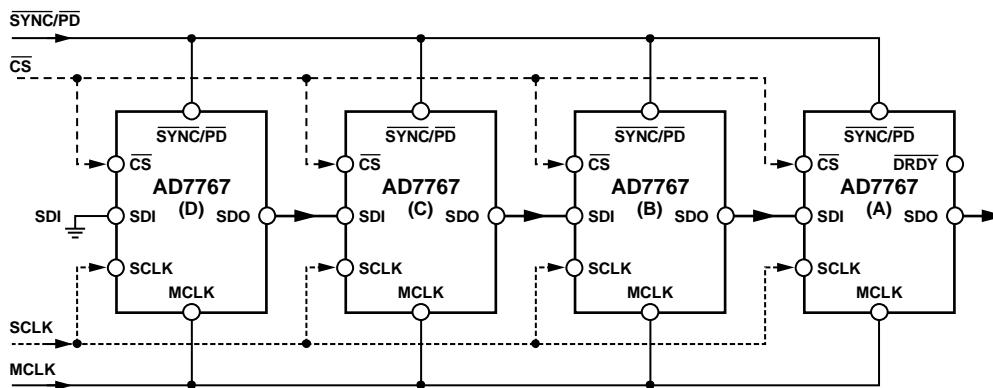
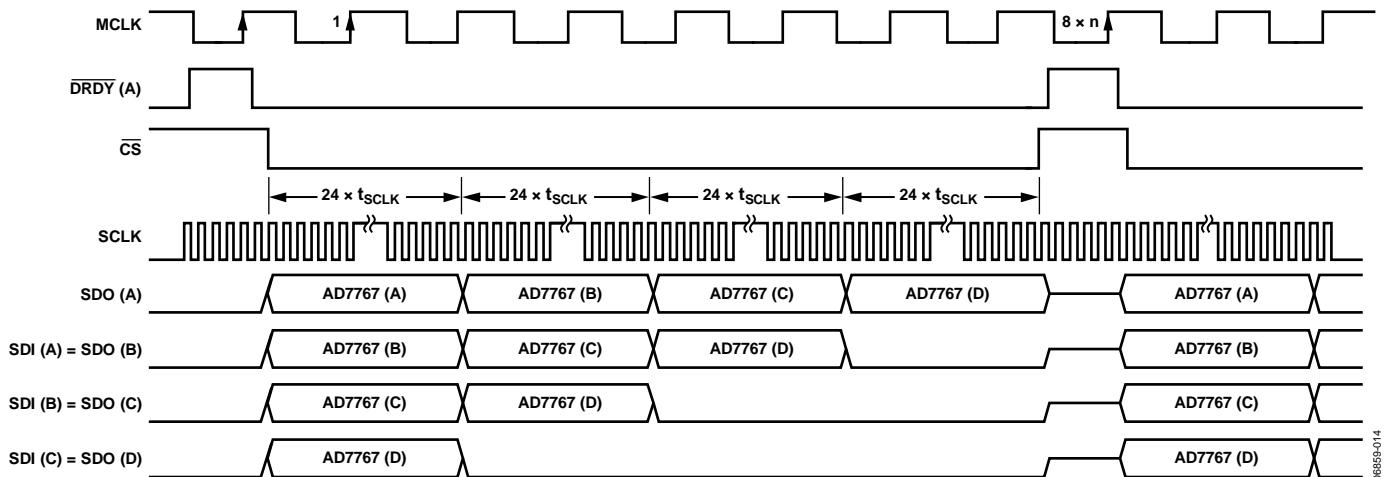
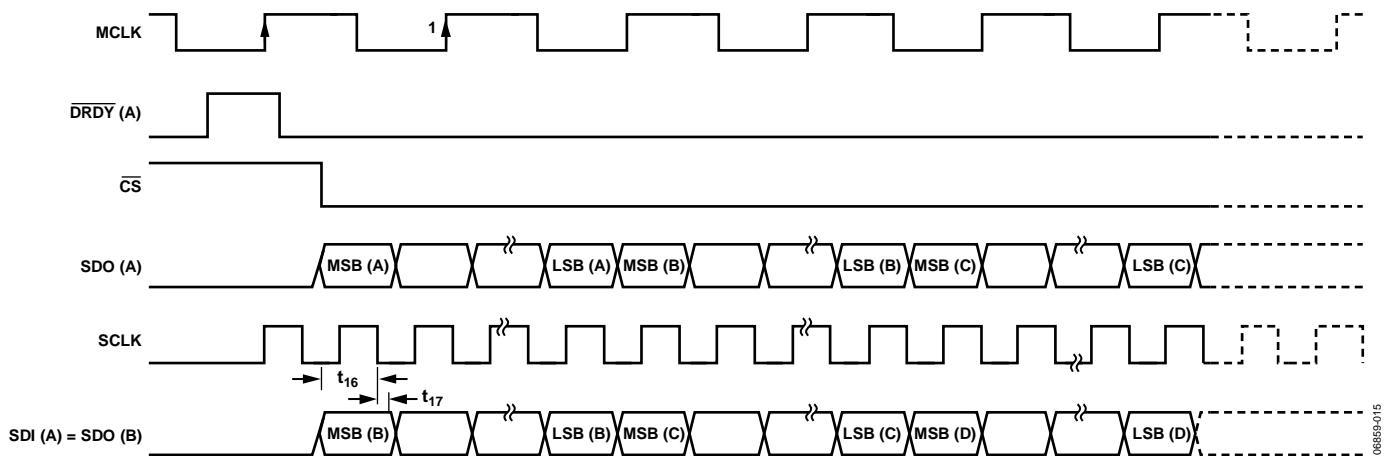

Figure 36. Daisy-Chain Configuration with Four AD7767 Devices
Figure 37. Daisy-Chain Timing Diagram ($n = 1$ for AD7767, $n = 2$ for AD7767-1, $n = 4$ for AD7767-2) When Driving the AD7767
Figure 38. Daisy-Chain SDI Setup and Hold Timing
The block diagram in Figure 36 shows how devices must be connected to achieve daisy-chain functionality. The scheme shown operates by passing the output data of the SDO pin of an AD7767 device to the SDI input of the next AD7767 device in the chain. The data then continues through the chain until it is clocked onto the SDO pin of the first device in the chain.
An example of a daisy chain of four AD7767 devices is shown in Figure 36 and Figure 37. In the case illustrated in Figure 36, the output of the AD7767 labeled A is the output of the full daisy chain. The last device in the chain (the AD7767 labeled D) has its serial data input (SDI) pin connected to ground. All the devices in the chain must use common MCLK, SCLK, CS, and SYNC/PD signals.
After applying a SYNC/PD pulse to all the devices, there is a delay (as listed in Table 7) before valid conversion data appears at the output of the chain of devices. As shown in Figure 37, the first conversion result is output from the AD7767 device labeled A. This 24-bit conversion result is followed by the conversion results from the devices labeled B, C, and D, respectively, with all conversion results output in an MSB-first sequence. The stream of conversion results is clocked through each device in the chain and is eventually clocked onto the SDO pin of the AD7767 device labeled A. The conversion results of all the devices in the chain must be clocked onto the SDO pin of the final device in the chain while its DRDY signal is active low.
This is illustrated in the examples shown (Figure 37 and Figure 38), where the conversion results from the devices labeled A, B, C, and D are clocked onto SDO (A) during the time between the falling edge of DRDY (A) and the rising edge of DRDY (A).
As shown in Figure 37, the number of SCLK falling edges that occur during the period when DRDY (A) is active low must match the number of devices in the chain multiplied by 24 (the number of bits that must be clocked through onto SDO (A) for each device).